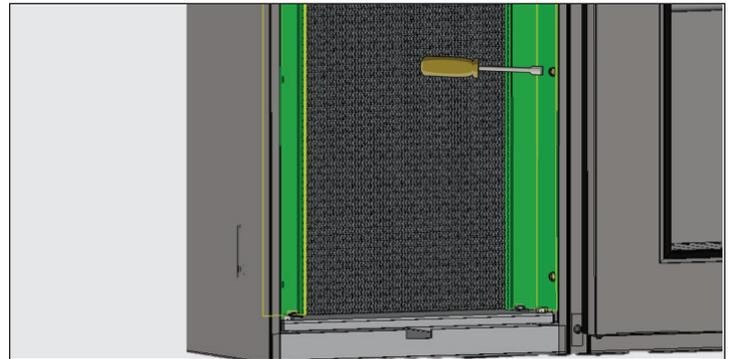

Fig. 6. Remove the coil brackets.
7. Remove the condenser coil brackets. See fig. 6.